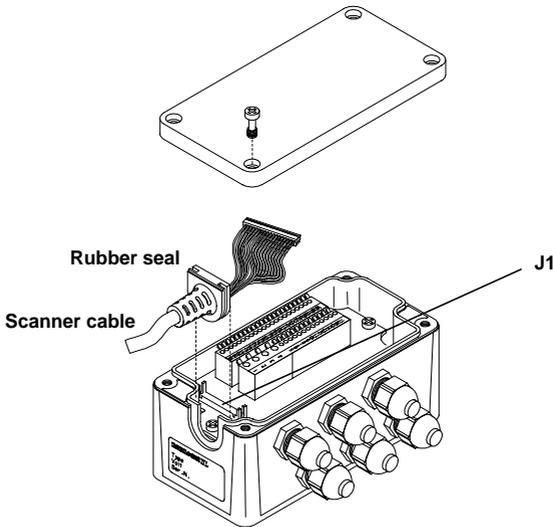

Figure 9 - Scanner cable connections to the junction box
- After wiring the junction box and while the scanner is unplugged from the power supply, place the Scanner cable so that the rubber seal fits into the cutout in the housing of the junction box and plug the 24-pin connector into connector J1 on the PCB inside the junction box as shown in Figure 9.